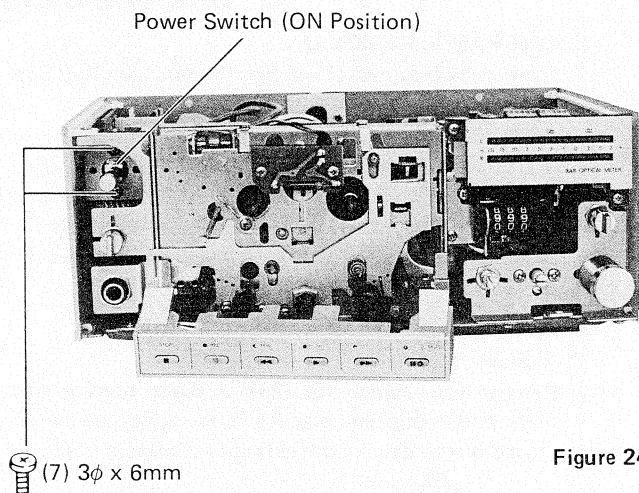

Figure 24
4. After pushing power switch to position, remove two screws (7) ($3\phi \times 6\text{mm}$) holding mounting bracket as shown in Figure 24.